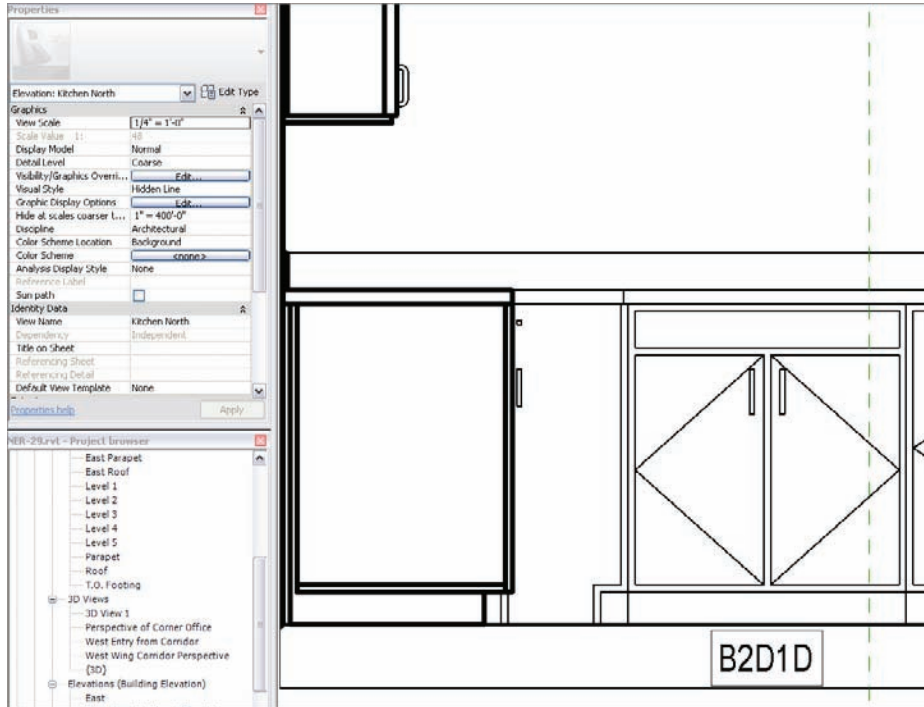

FIGURE 11.87 Renaming the tag
9. Rename it **B2D1D**, as shown in Figure 11.87, and then click Yes.